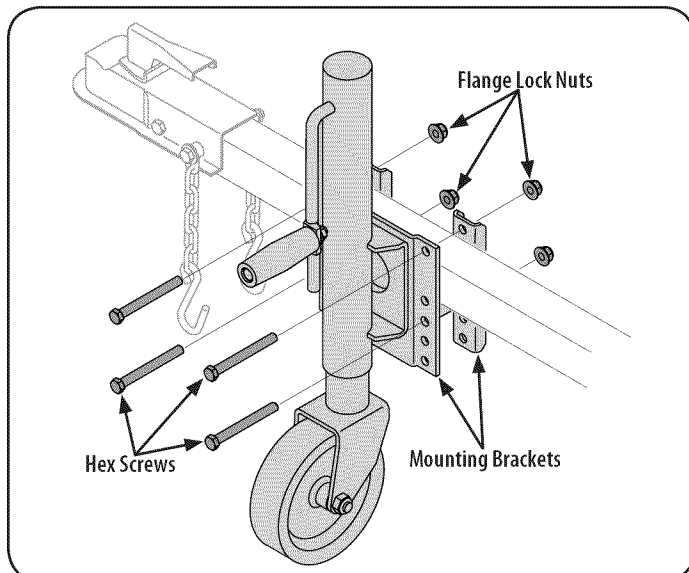

Figure 2
8. Place the adjustable jack stand halfway between the beam support/latch bracket and end of the tongue. See Figure 2.